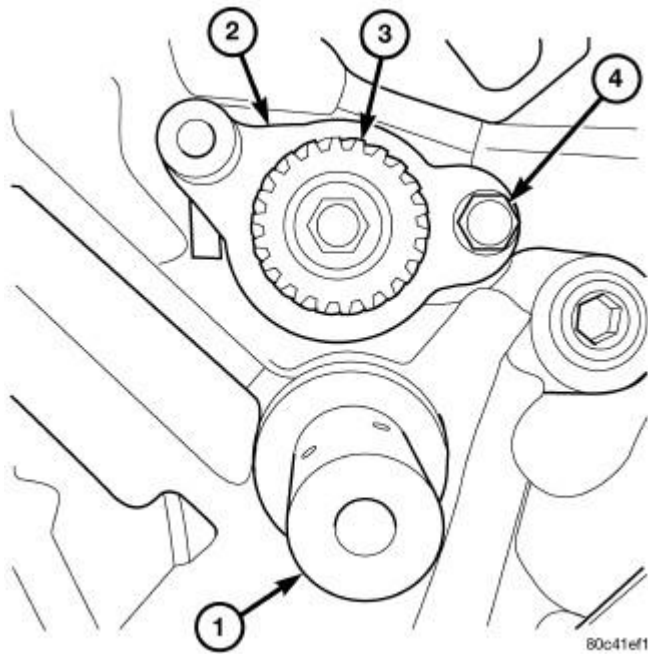

Fig. 93: Idler Shaft, Counterbalance Shaft Thrust Plate And Drive Gear & Retaining Bolt
3. Install Counterbalance shaft thrust plate retaining bolt (4) finger tight. Do not tighten bolt at this time.
5. Tighten the thrust plate retaining bolt (4) to 28 N.m (250 in. lbs.). Refer to **Fig. 93**.